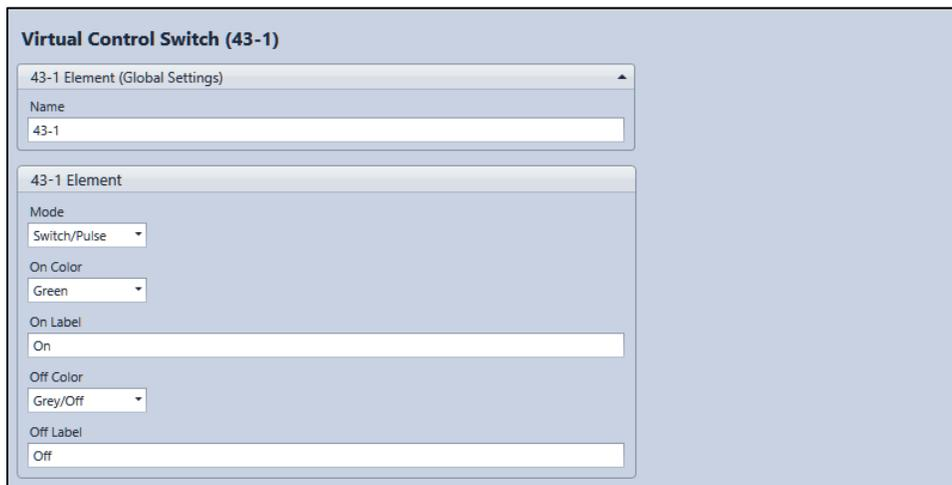

Figure 44-3. Virtual Control Switch Settings Screen
Virtual control switch element operational settings are configured on the Virtual Control Switch (43) settings screen (Figure 44-3) in BESTCOMSPi.us.